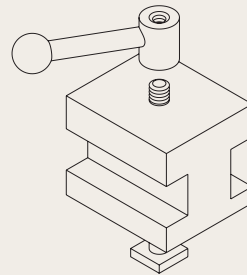
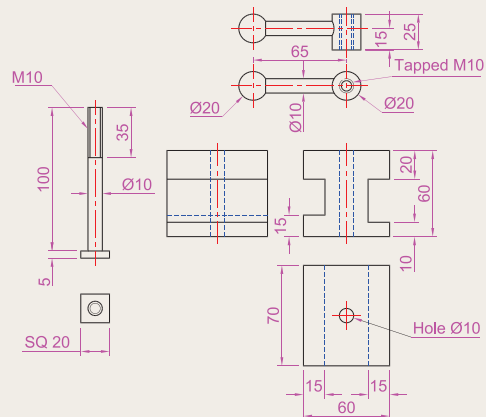

Fig. 7.26 Exercises 4 and 5 – orthographic projections of the three parts of the tool holder
Fig. 7.27 Exercises 4 and 5 – orthographic drawing of the tool holder on which the two exercises are based
- Construct a three-view orthographic projection in an angle of your own choice of the tool holder assembled as shown in the isometric drawing in Fig. 7.26. Details are given in Fig. 7.27.
- 5. Construct an isometric drawing of the body of the tool holder shown in Figures 7.26 and 7.27.